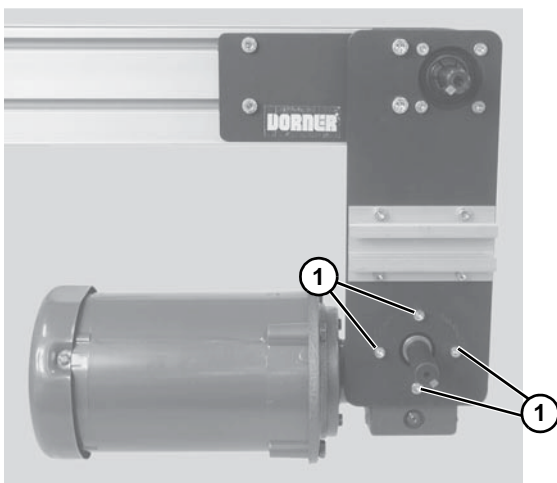

Figure 7
2. If required, change gearmotor position by removing four (4) screws (**Figure 7, item 1**). Rotate gearmotor to other position and replace screws (**Figure 7, item 1**). Tighten to 110 in-lb (12 Nm).